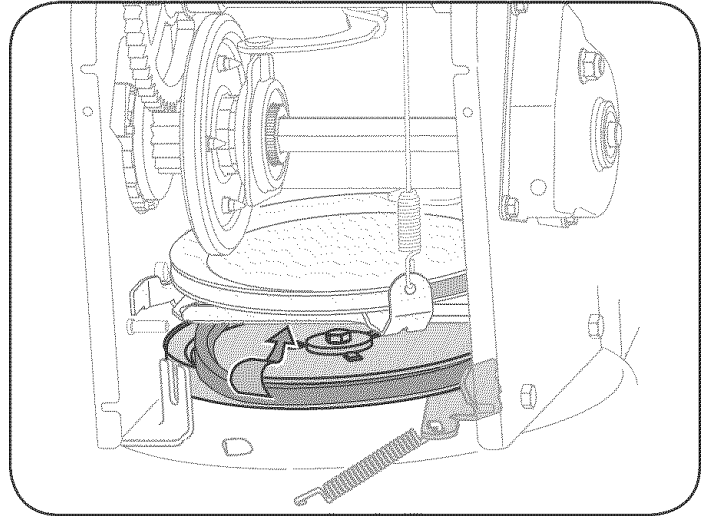

Figure 22
2. **Hex Gear Shaft:** Once a season, lubricate the hex shaft with a penetrating oil, but not grease. Refer to Figure 22 on page 17.
3. Remove old belt and replace with new belt wrapping it around the auger pulley. See Figure 22.
3. With the drive control engaged, the friction wheel must contact the drive plate. See Figure 22.